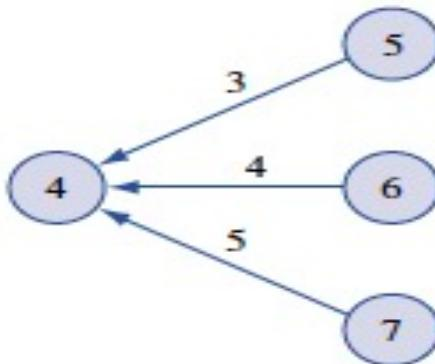

Figure 5.8 Computation of $LT(4)$
- To illustrate how $LT(i)$ is computed for nodes other than the finish node, suppose we are working with a network (Figure 5.8) for which we have already determined that $LT(5) = 24$, $LT(6) = 26$, and $LT(7) = 28$.